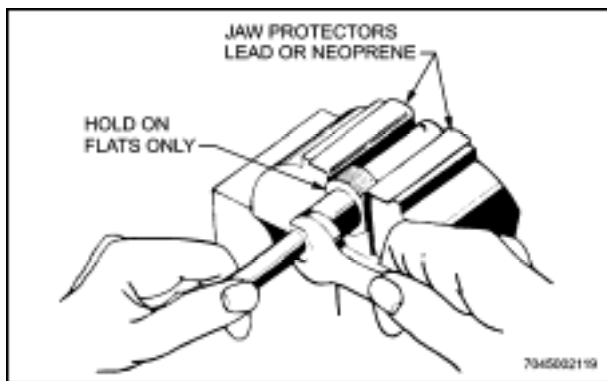

Figure 12-13 Tightening Braid Clamp Nut into Plug or Jack Body
- i. When assembling the connector, always start the clamping nut into the body by hand, then hold the body assembly in a vise using lead or neoprene jaw protectors. (See Figure 12-13.) Hold body only on the flats. Do not use excessive pressure, since the body can be easily distorted. Tighten nut with end spanner.